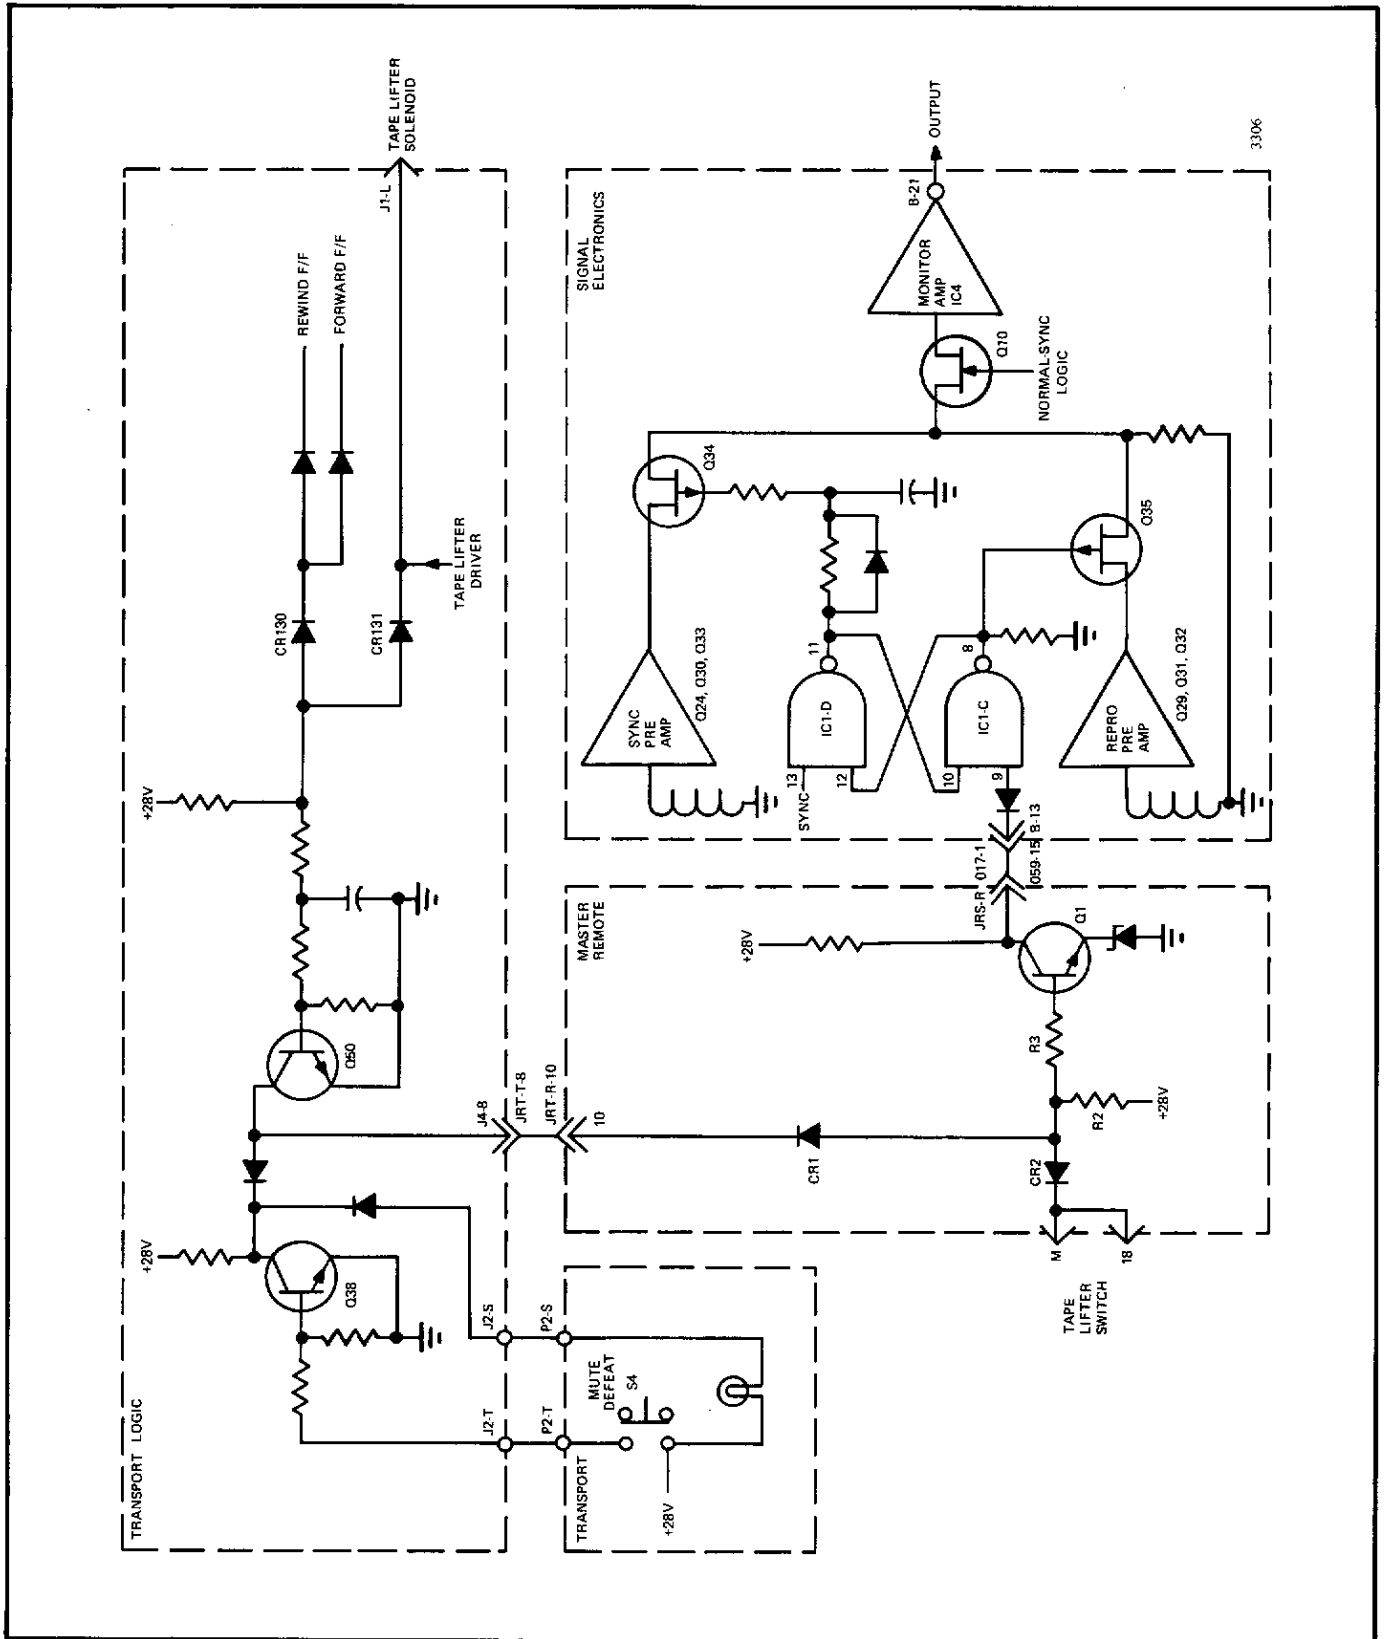

Figure 5-2. Mute Defeat Circuit
5-30A. A MUTE DEFEAT control is used on 8, 16, and 24 track recorders. Muting of the reproduce and sync preamplifiers is controlled by the mute/mute defeat circuit, sync signals, and the forward and rewind flip-flops. See figure 5-2. When the MUTE DEFEAT switch, S4, is in the mute state (not illuminated), the collector of Q38, on the transport logic board, is high. If S4 is in the mute defeat state (illuminated), Q38 conducts, providing a low at the collector. The collectors of Q38 or Q50 drive Q1 on the master remote board. When Q50 is conducting, the low collector voltage prevents control by Q38. A low from the forward or rewind flip-flops, or from the tape lifter circuit, ensures non-conduction of Q50, permitting mute defeat only during rewind or forward modes. Q1 is normally conducting due to current through R2 and R3. The collector voltage of approximately 6 volts is applied to pin 9 of IC1-C, making pin 8 high. This high keeps Q35 turned off, muting the reproduce preamplifier. A low from Q38 (mute defeat) or Q50 (not rewind or forward) turns Q1 off, allowing the collector voltage to go high. Actuation of the tape lifter switch will
**5-37. CAPSTAN RUN** (see figures 6-2 and 6-3). Run is initiated with the capstan speed switch S3 set to any position, and by pressing the play switch (S6) which energizes play relay K2 removing +28 volts at the servo board pin 17 by opening contacts 10,2. K2 causes two transistors (Q26 and Q27) to change state. Q26 applies ground from J2-15 to pin 9 while Q27 removes ground at pin 14 from J2-16. The servo is placed in the run condition as follows, see figure 5-2: The flip-flop of IC3 (pins 1 through 7) may be either in the set or reset state. If in the set state, C11 charges and unijunction CR1 avalanches producing a sharp positive voltage at the cathode resistor R27 which resets the flip-flop. During this initial period when the tach signal is absent, CR1 operates as a conventional relaxation oscillator, and the flip-flop remains in the reset state. The pulse detector C5, which has charged through R8 and Q1, remains charged in a high state. The dc signal is amplified by the dc operational amplifier IC1 (pins 8-9-13) which accelerates the motor under full power. The tach signal is coupled by step-up T1 to operational amplifier IC1 pins 5 and 6; the output at IC1-1 is a square wave. The square wave is differentiated by the shaping circuit IC2 and C4. The positive portion of the differentiated signal at IC2-14 sets the flip-flop at pin 4, and turns on switch Q3 to discharge C11. The flip-flop, however, is reset at a precise time determined by the RC network of CR1 since C11 is permitted a natural charge time. The flip-flop is thus reset longer than set, and C5 will charge through R8 and Q1 to a higher potential causing the motor to increase speed. When the tach rate and the pulse output rate of CR1 are the same, C5 is charged to an average level to maintain the motor at a constant speed. Q1 is turned on and off by a positive pulse out of the flip-flop pin 2 via the NOR gate so that at pin 13 the pulses are positive. The width of the pulses determines the charge of C5.